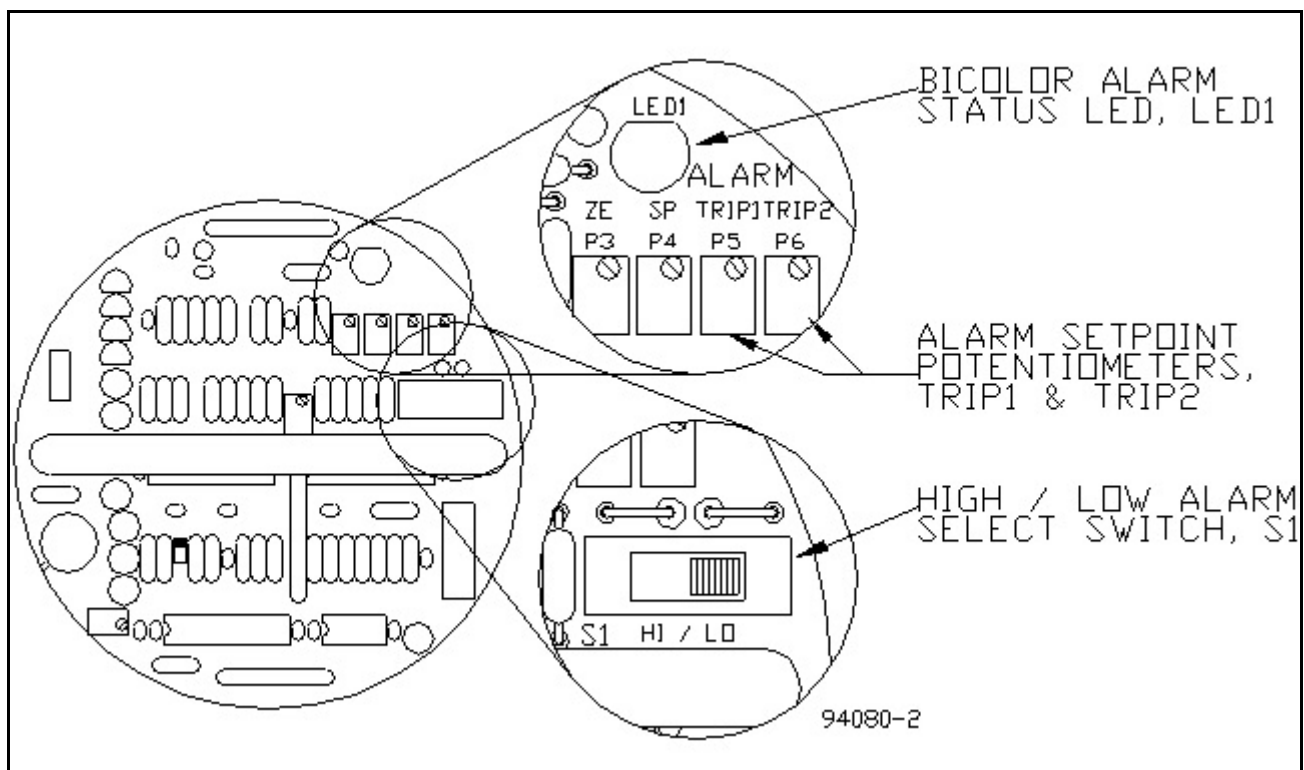
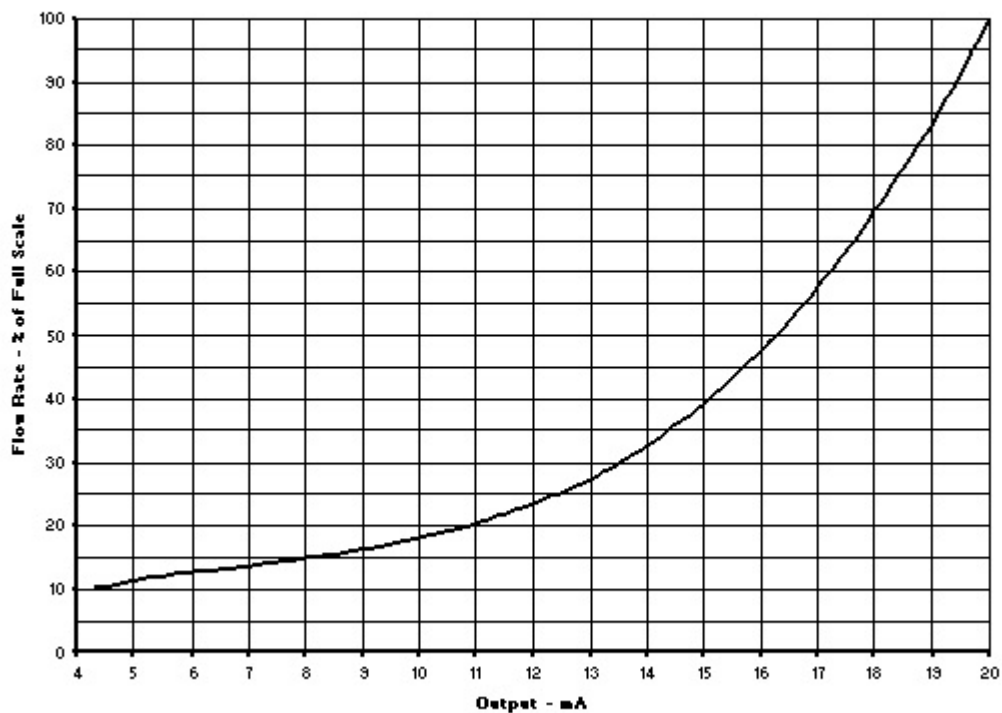

Figure 3. Set point Adjustment Components and Locations
Figure 6. Typical Output Curve (for units with 4-20mA output option)
If the instrument is ordered with a calibrated output signal, the output curve for the unit can be found after SECTION 6. For an uncalibrated unit with a 4-20mA option, a typical curve is shown in Figure 6. Check SECTION 6 for the corresponding full scale value for this instrument. Flow can also be found by the formula:
2. Locate the zero potentiometer (pot) labeled P3 using Figure 3. Identify the proper flow output signal corresponding to the current flow rate (see Figure 6 or the supplied calibration curve, as applicable). After the flow has stabilized, adjust P3 until the flow output agrees with the desired output value.
4. Locate the span pot labeled P4 using Figure 3. Identify the proper flow output signal corresponding to the current flow rate (see Figure 6 or the supplied calibration curve, as applicable). After the flow has stabilized, adjust P4 until the flow output agrees with the desired output value.